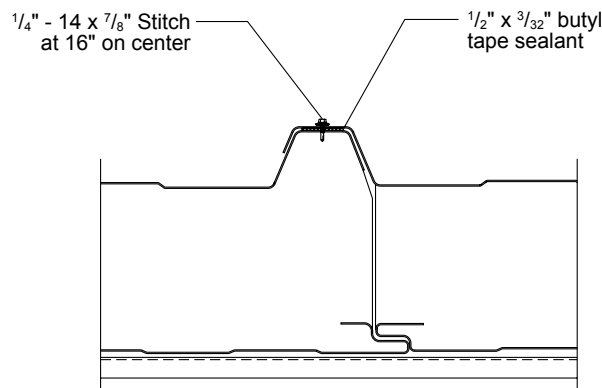

Figure 14
20.11 After the main fasteners are in place the overlapping rib should be fastened down with #14 x  $\frac{7}{8}$ " self-drilling stitch lap screws, finished to match panel (see figure 14, below).